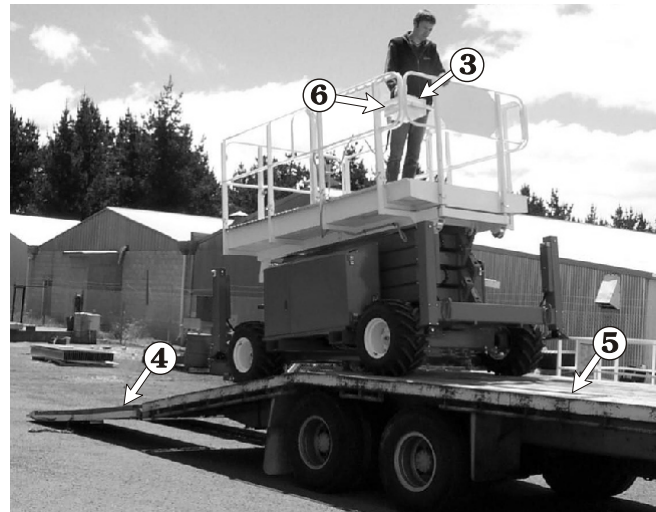

Figure 10.4
6. Use the joystick controller **3** to slowly drive the SR straight onto the ramp **4** and trailer **5** (see Figure 10.4).
7. When the SR is in place on the trailer, push the **Emergency Stop** switch **6** (see Figure 10.4) in (OFF) at the platform control box.